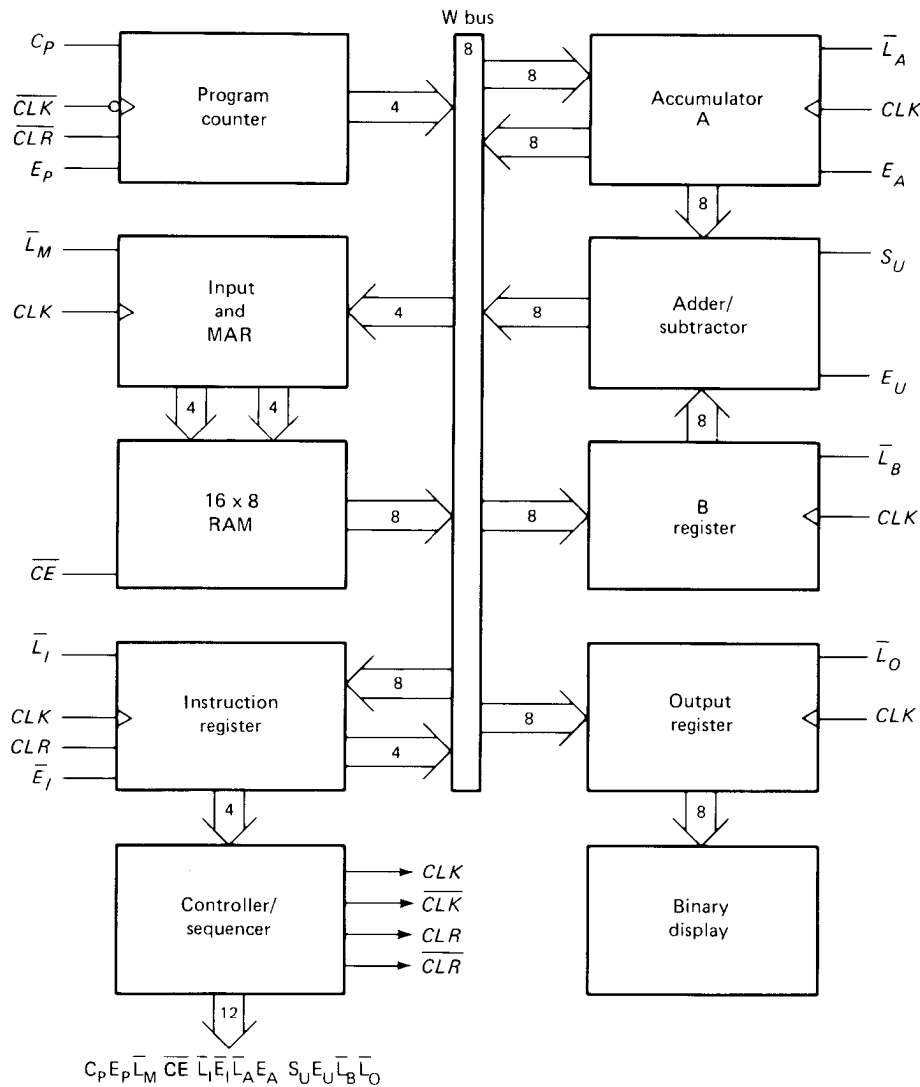

Fig. 10-1 SAP-1 architecture.
Figure 10-1 shows the *architecture* (structure) of SAP-1, a bus-organized computer. All register outputs to the W bus are three-state; this allows orderly transfer of data. All other register outputs are two-state; these outputs continuously drive the boxes they are connected to.
The layout of Fig. 10-1 emphasizes the registers used in SAP-1. For this reason, no attempt has been made to keep all control circuits in one block called the control unit, all input-output circuits in another block called the I/O unit, etc.
Many of the registers of Fig. 10-1 are already familiar from earlier examples and discussions. What follows is a brief description of each box; detailed explanations come later.
The *accumulator* (A) is a buffer register that stores intermediate answers during a computer run. In Fig. 10-1 the accumulator has two outputs. The two-state output goes directly to the adder-subtractor. The three-state output goes to the W bus. Therefore, the 8-bit accumulator word continuously drives the adder-subtractor; the same word appears on the W bus when E_A is high.
SAP-1 uses a 2's-complement *adder-subtractor*. When S_U is low in Fig. 10-1, the sum out of the adder-subtractor is